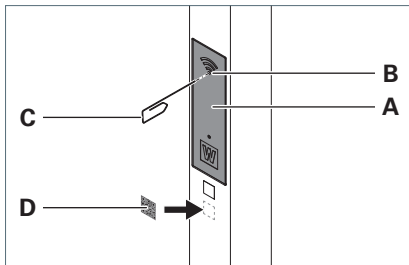

Fig. 2: Open the service flap.
- ▶ Affix the separately included label **D** with the EnOcean QR code on the column underneath the service flap see Fig. 2.
- ▶ To release the service flap **A** on the column, press an opened paper clip **C** into the opening **B**, see Fig. 2.